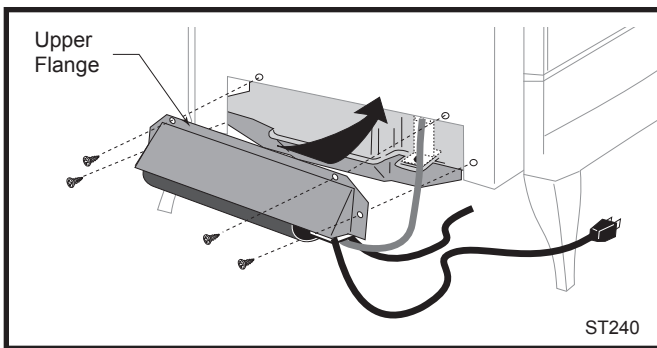

Fig. 14 The upper flange of the fan skirt should be located behind the lower edge of the shroud.
1. The fan kit includes a blower assembly and a rheostat assembly connected by a cable. (Fig. 14) The blower assembly and the rheostat mount to the rear shroud of the stove. The assembly includes a 'snapstat' which automatically turns the fan ON (or OFF) above (or below) approximately 109° F (43° C). The rheostat also provides a range of fan speed settings from Off (which overrides the snapstat function) to HIGH. Unpack and inspect the blower assembly. Confirm that the fan spins freely.
3. Attach the fan to the rear shroud by engaging the upper flange of the fan skirt under the lower edge of the shroud and secure the skirt with the four screws and one star washer provided. (Fig. 14)